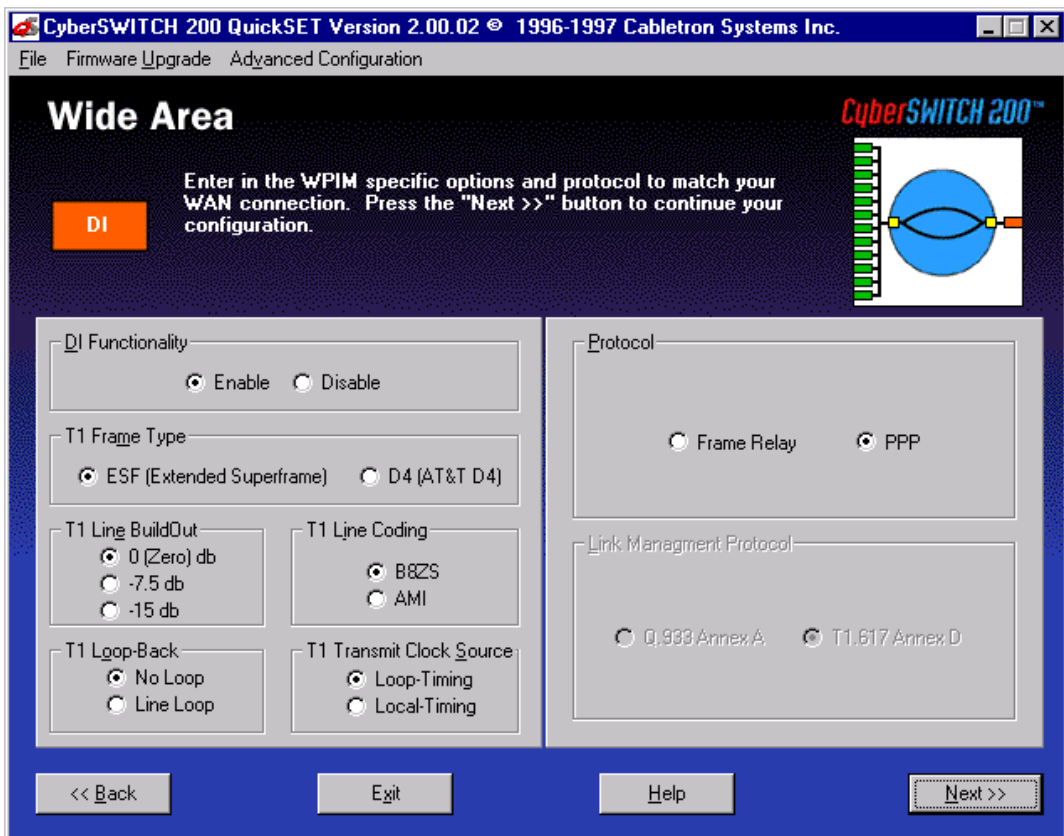

Figure 20 Wide Area DI Configuration Window
The Wide Area (DI) configuration window shown in **Figure 20** displays after clicking on the **Next>>** button in the Ethernet configuration window.